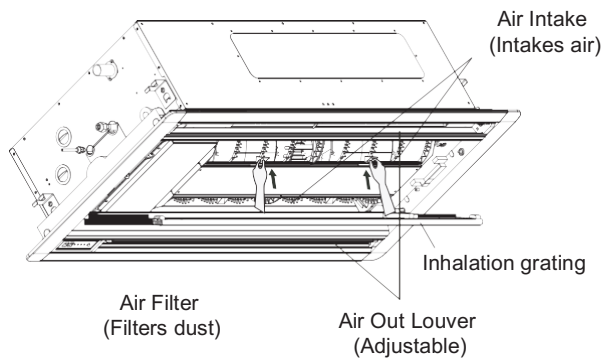

Fig.5-14
- b. The air-in side should face down when using clean water. (Refer to Fig.5-14)